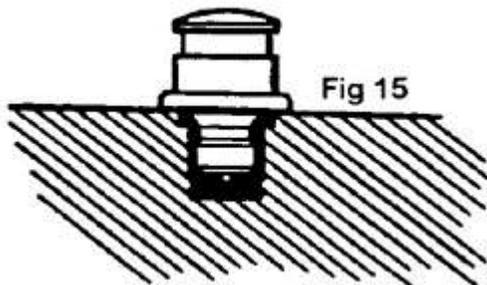

Fig 15
6. Place the male (stainless steel cap, nylon male, and centering sleeve) into each Substitute Female. The centering sleeve eliminates movement of the male during processing (Fig 15).